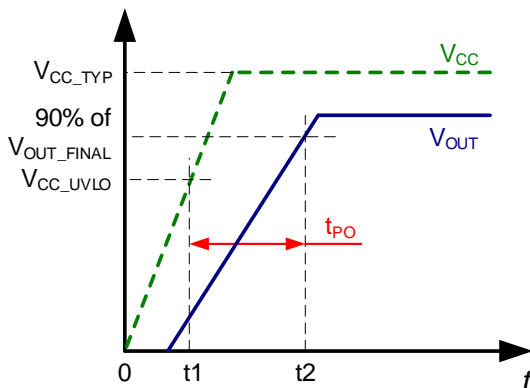

Figure 5: Power-On Time (t_{PO})
2. t_2 : V_{OUT} settles to 90% of its final value under an applied primary current (see Figure 5).